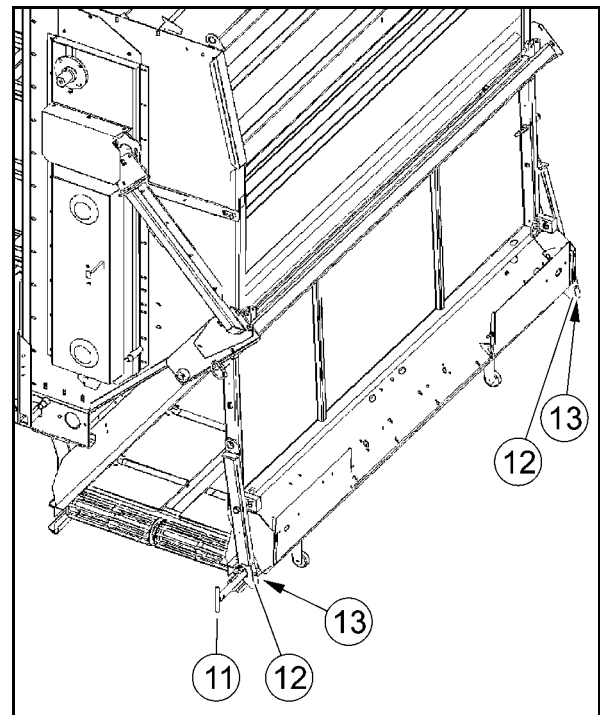

Fig. 94
8. Fasten both receiver pipes (7) in the front borehole (8).
9. Remove both locking bolts (9) from each receiver crossbeam (10).
10. Insert one locking tube (11) each at the front of the crossover conveyor.
12. Roll the crossover conveyor beneath the transport floor such that the receiver crossbeams (10) can take up the crossover conveyor.
14. Secure the crossover conveyor in each receiver crossbeam (10) by means of the two locking bolts (9).
15. Insert the locking tubes (11) at the bottom of the crossover conveyor.
16. Remove the locking bolt from each locating hook (12).
17. Swivel the crossover conveyor upwards (Fig. 94).
18. Put the crossover conveyor down onto the locating hooks (12) on both sides.
19. Push the locking tubes (11) into the crossover conveyor.
20. Insert the locking bolt (13) into each locating hook 12).